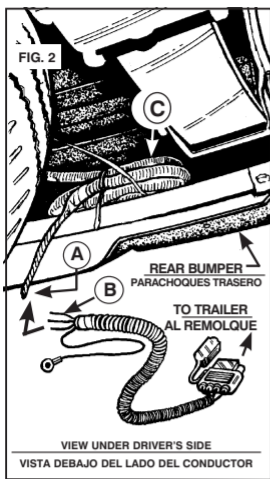
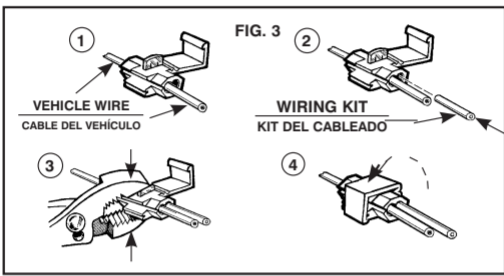

FIG. 2
FIG. 3
2. Expose 3 inches of the vehicle wiring by removing the tape and tubing. There could be 5 or 7 wires inside the harness, depending on the model. Remove the tape from the dark green, yellow, and brown wires and cut them to a uniform length (Fig. 2 / A).
3. Use the blue splices provided to join the vehicle connector wires (Fig. 2 / B) to the vehicle's corresponding wires (Fig. 2 / A) as follows: Insert the green wire and the vehicle's dark green wire into a splice, press the metal bar down with a pair of pliers and close. Repeat the above joining yellow to yellow and brown to brown (Fig. 3). Ground white wire to vehicle frame.